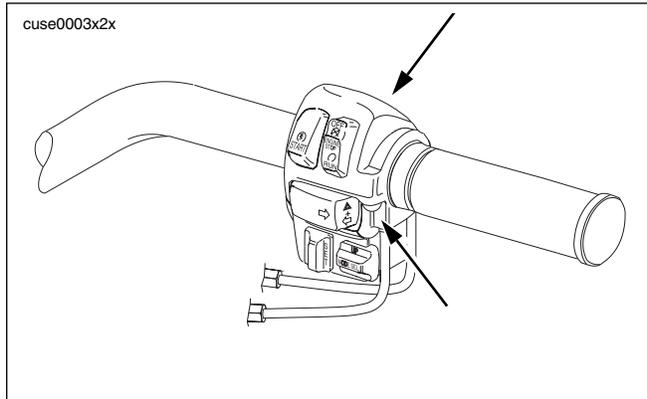

Figure 2-27. Right Handlebar Switch Housing Screws
6. See Figure 2-27. Remove upper and lower fasteners securing right switch control housing halves to handlebar.